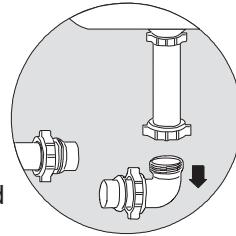
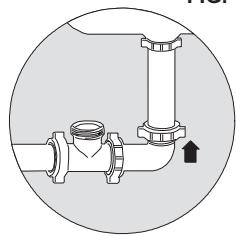

FIG. 8
FIG. 9
2. Slip S.J. nut and beveled waster over both ends of cut tube, then insert the 3-way repair tee in the following manner: Loosen the S.J. nut on the horizontal waste ell where it joins the vertical tailpiece. (See Fig. 8) Remove the short "ell" piece by pulling down the tailpiece. (Fig. 8), then put cut ends of ell into tee and tilt vertical end back up over tailpiece and re-secure S.J. nut. Rotate tee so that the side outlet is facing straight up, then firmly tighten both S.J. nuts to tee. (See Fig. 9)